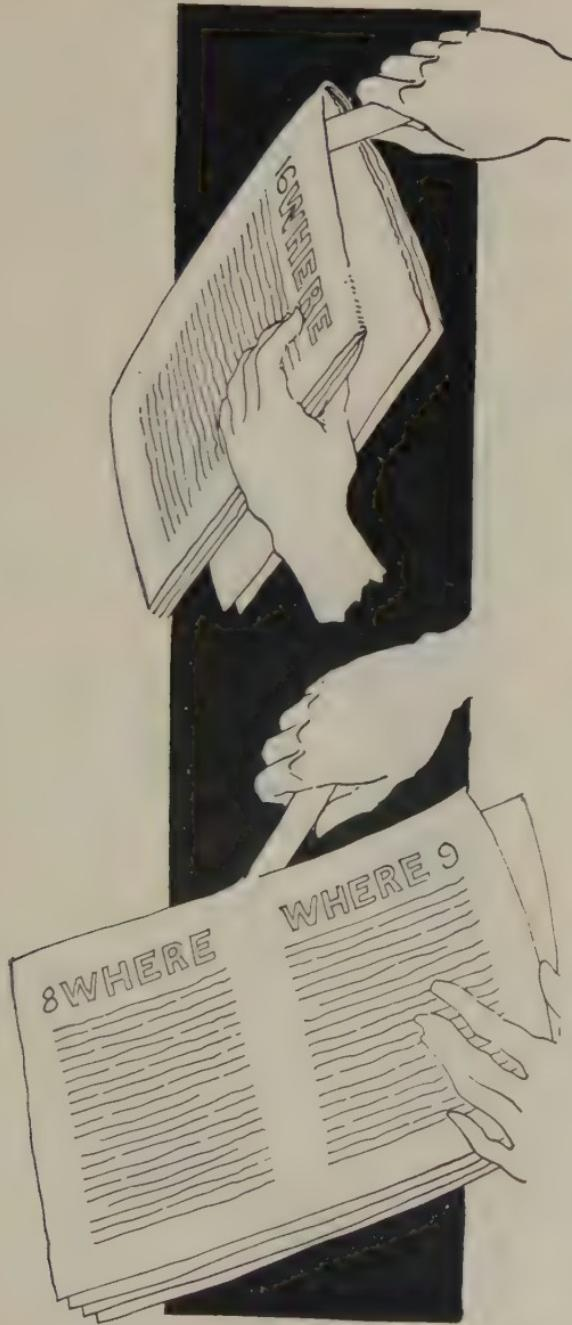

FIG. 13—SLITTING SECOND FOLD AND MAKING THIRD FOLD
6. Turn this "cat-corner" again until the corner where both folds meet is nearest you. (See Fig. 13.)
8. Remove the folder, place the end of folder against the flat section near the edge just slit open, with folder held flat, with left hand bring over the far side of the section toward you, until corners are positioned, then remove folder and crease folded edge. In doing last operation you will again turn section "cat-corner" so that the now finished section is "head" toward you. (See Figs. 13 and 14, also views on pages 112 and 114.)